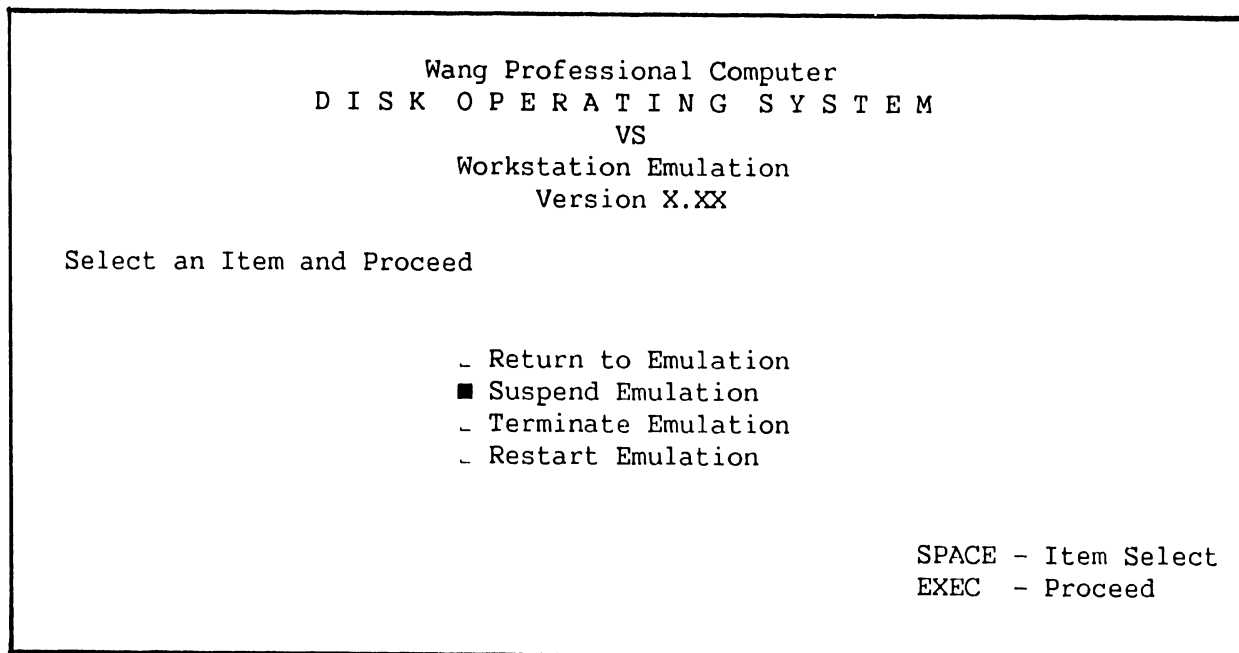

Figure 6-2. Workstation Emulation Menu Screen
2. The Workstation Emulation Menu screen appears. (See figure 6-2).